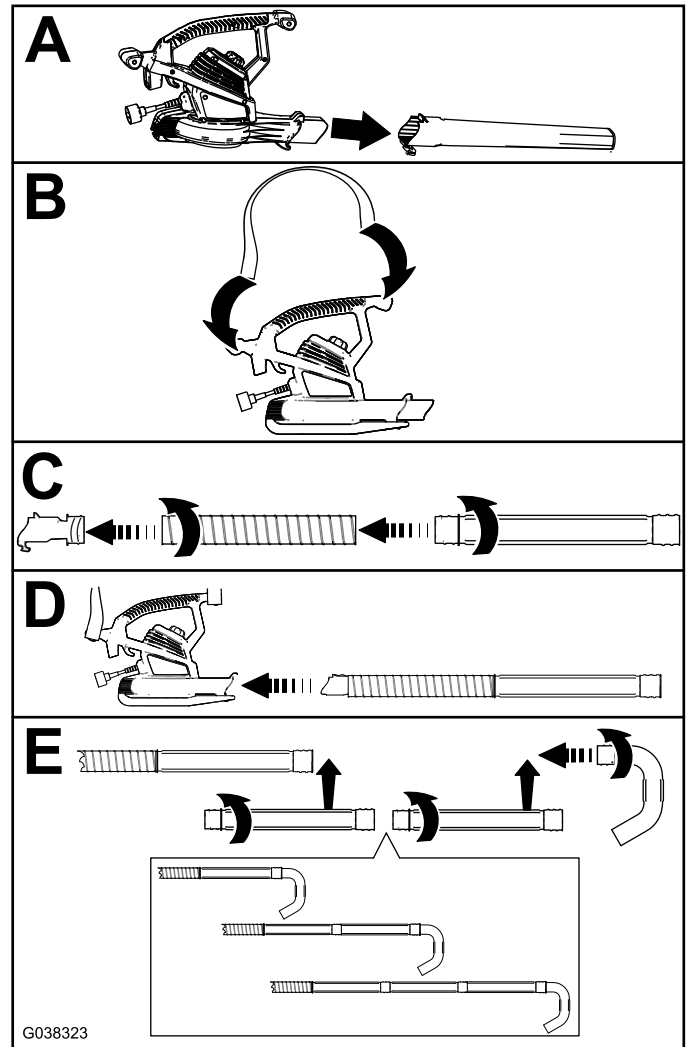

Figure 3
4. Install the flex tube and extension tubes to the collar as shown in C and E of Figure 3.